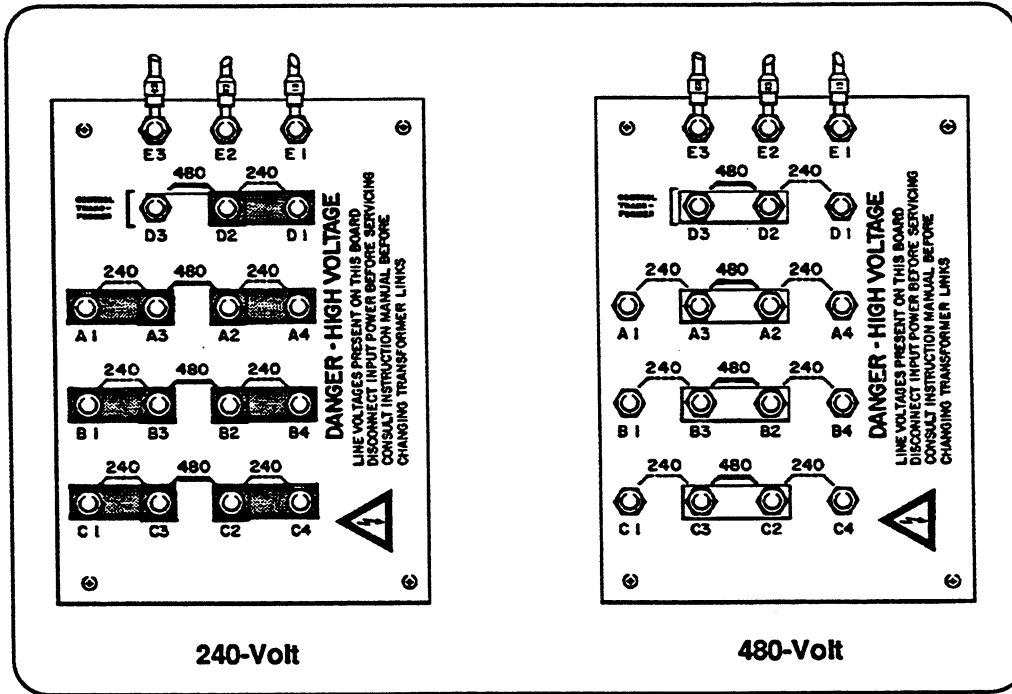

Figure 3-2 Dual Voltage 240/480-Volt Linkboard Configurations
- The 240/480-volt power supplies (078020) are shipped configured for 480-volt operation. The links must be moved for 240-volt operation (see Figure 3-2).